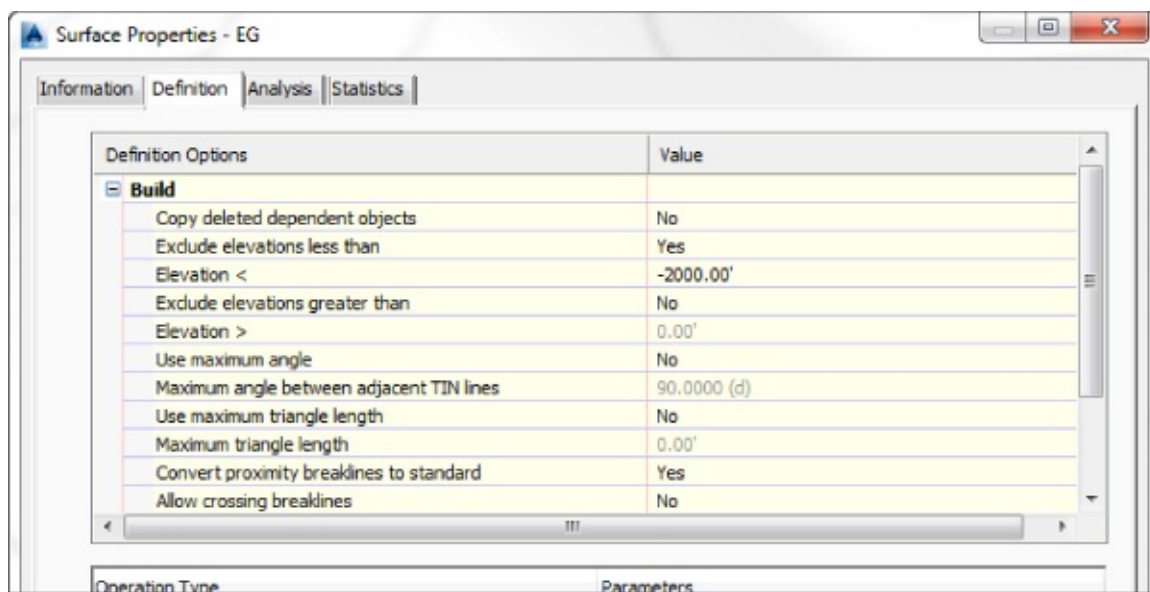

Figure 4.29 Surface Properties Definition Options
6. Under Definition Options at the top of the dialog (Figure 4.29), expand the Build branch by clicking the + symbol.